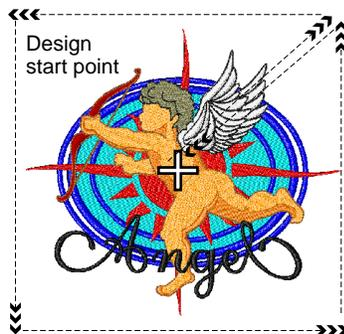
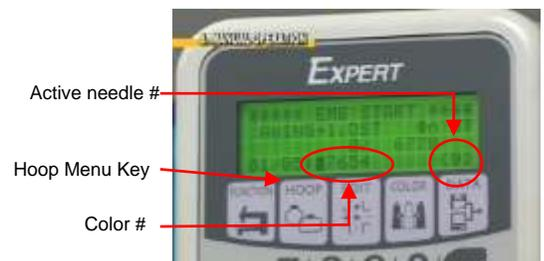

Figure 2
Figure 3
1. This function makes the hoop travel along the rectangle that surrounds the embroidery range. Tracing will start from the design start point and move to the rear right, rear left, front left and front right corners of the embroidery range, then return to the design start point. (fig. 2) On the Toyota ESP9100 there is an option to trace using the actual shape of the design rather than tracing a Rectangle. The function is in the HOOP menu. On #7 in the HOOP menu, press the left or right hoop travel keys to switch between "RECT or LINE" tracing. (fig. 3)
After the colors are entered press the **TRACE** option key to make sure the design fits inside the hoop. *When tracing, use the active needle as your reference point.* The active needle number is located in the lower right corner of the control panel screen. (fig. 3)